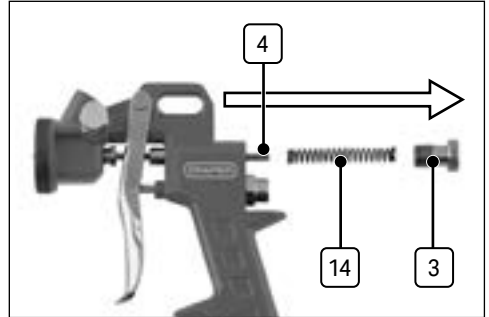

Fig. 4
3. Rotate the fluid control dial (3) anticlockwise until it comes away from the spray gun body (Fig. 4).